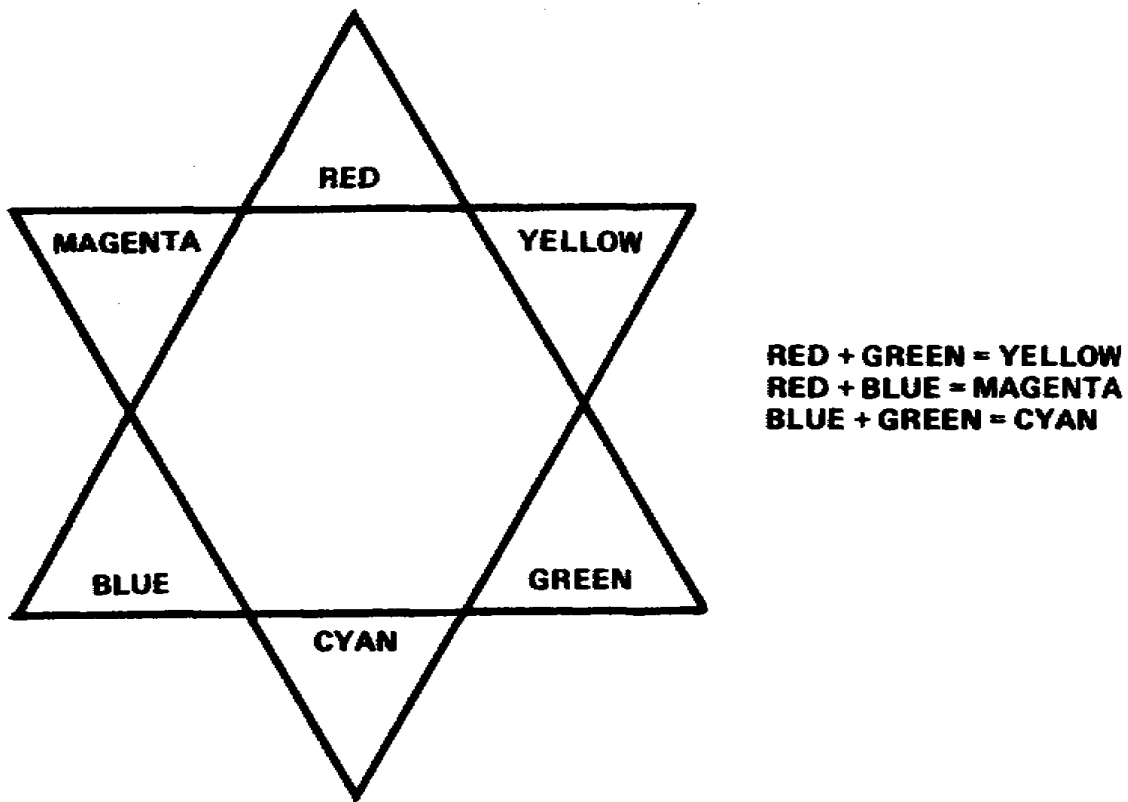

Figure 2-2. Color star
(1) The area of overlap between the blue and green light produces cyan (blue green). The area of overlap of the red and blue light produces magenta, and the overlap of the red and green light produces yellow. Almost any desired color match can be produced by varying the amount of one of the two colors used for producing that color.
(2) If you have equal proportions of red and green, the result is yellow. By increasing the amount of red, the result is orange. Since matching a wide range of colors with red, green, and blue light involves addition of the colored light, the primary colors are often identified further as the additive primaries.
c. At this point, refer to Figure 2-2 and study the color star. Remember which colors are the additive primaries (blue, green, and red) and notice that the subtractive primary colors between any two of the additive primaries are mixtures of these two primary colors. Also, notice the colors that are directly opposite to each other in this star; these colors are complementary to each other.